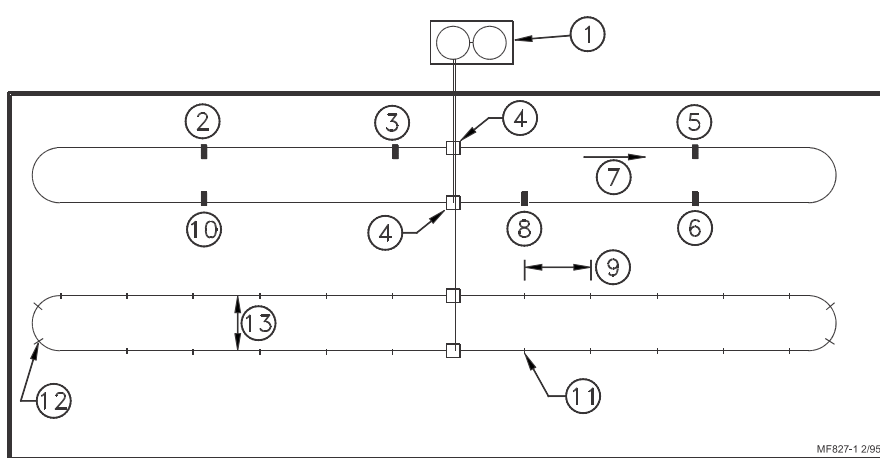

Figure 1. System Layout Diagram for systems using (2) Hoppers per loop. (Top View).
Figure 1, shows a house with (2) ULTRAFLO® Breeder Feeder Loops. The purpose of the first loop is to show the recommended placement of the power units, hoppers, and weigh bin.
FOR HOUSES UP TO 350' (106 M), two power units are recommended. These power units should be evenly spaced opposite each other. For a 350' (106 m) house the power units should be placed in positions "3" and "8" **See Figure 1 (on page 8)**. Notice that the power units are located one trough section from the hoppers.
FOR HOUSES FROM 351' TO 450' (106 TO 137 M), three power units are recommended. To determine the proper placement of the three power units, add the total length of the system, including 5' (1.5 m) for each 90 degree elbow, and divide by 3. This will give an approximate number of feet between power units, round up or down to the nearest suspension drop line. These power units should be staggered (two on one side of the loop, one on the other side). The power units should be placed in positions "3", "10", and "6" (**See Figure 1**). The power unit in position "3" should be located one trough section away from the hopper.
For houses from 451' to 600' (137 to 182 m), four power units are recommended. These power units should also be spaced evenly around the system. To determine the proper placement of the power units, add the total length of the system, including 5' (1.5 m) for each 90 degree elbow, and divide by 4. This will give an approximate distance between power units, round up or down to the nearest suspension drop line. The power units should be evenly spaced directly across from each other in the system. The power units should be placed in positions "2", "10", "5", and "6" (**See Figure 1**).